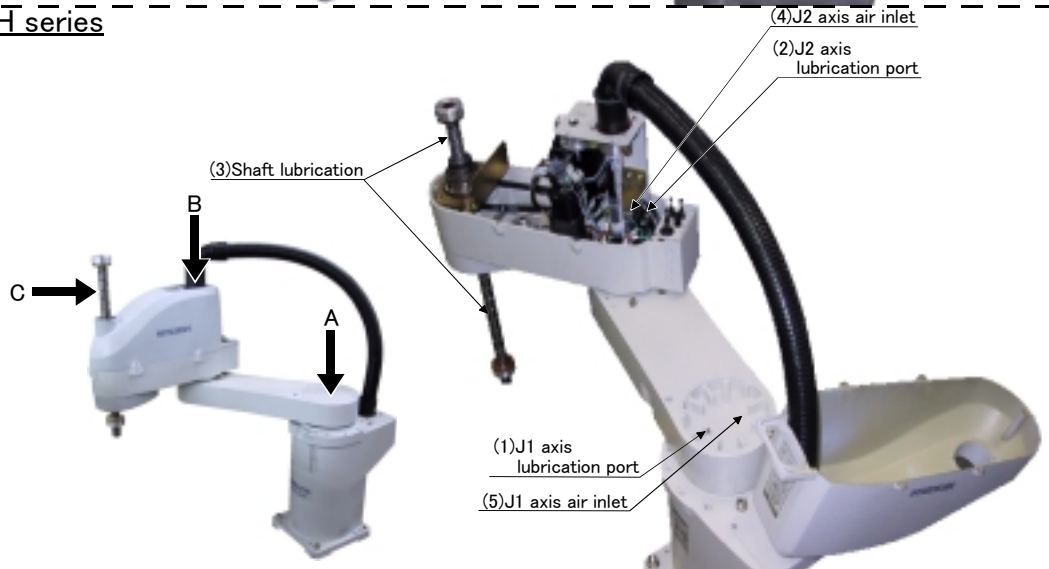

Fig.5-13 : Lubrication positions
The grease nipple position is shown in Fig. 5-13. The lubrication specifications for each place are shown in Table 5-4. When lubricating, remove the covers that need to be taken off by refer to "Fig.5-3 : Installing/removing the cover".
- The numbers in the Table 5-4 correspond to the supply positions in Fig. 5-13.
(2) Lubrication method to the J1, J2 axis